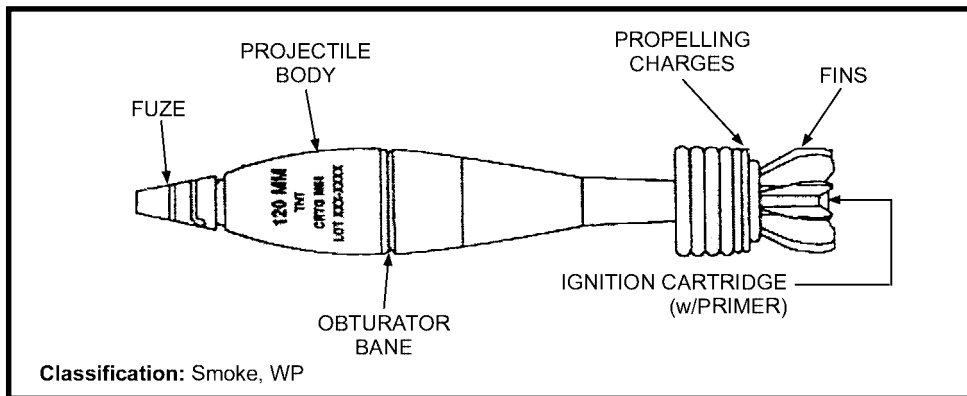

Figure 7-10. M68 smoke cartridge.
b. **M68 Smoke Cartridge (NDI)** (Figure 7-10, page 7-32).
- (1) Identification: Light green with red markings.
- (2) Components: M935 PD fuze.
- (3) Maximum range: 6,300 meters at charge 8; 7,200 meters at charge 10.
- (4) Remarks: Used for screening and spotting.